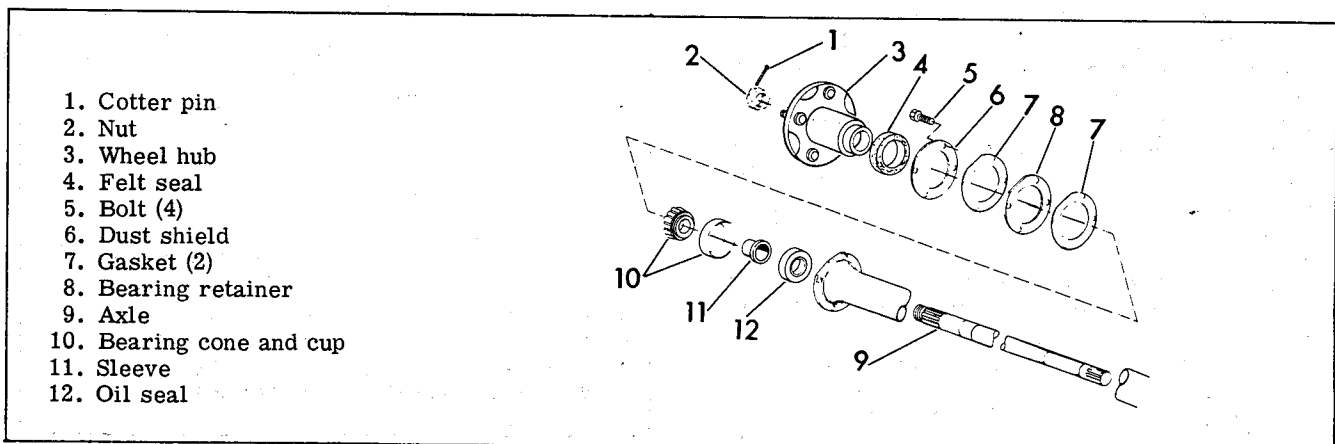

Figure 2B-12A. Rear Axle (1973 to Early 1977) - Exploded View
#### INSTALLING AXLE SHAFT - 1973 TO EARLY 1977 (Fig. 2B-12A)
Press oil seal (12) into axle housing. Press sleeve (11) and bearing (10) onto axle shaft (9). If new bearing is used, cup side of bearing should face into axle housing. If old bearing is reused, press bearing cup into axle housing. Pack bearing with bearing grease and insert axle shaft into housing lining up splines on shaft and in bevel gear in differential so that shaft can be pushed in against axle spacer in differential. Install gaskets (7), bearing retainer (8), dust shield (6) and bolts (5) as shown in figure 2B-12A. Assemble felt seal (4) to wheel hub. Coat spline on end of axle with Harley-Davidson Sleeve Retainer Part No. 99628-77. Assemble wheel hub (3) to axle shaft. Turn on axle shaft nut (2) and tighten to 50 ft.-lbs. torque. Then tighten until nearest cotter pin hole lines up. Install cotter pin (1).